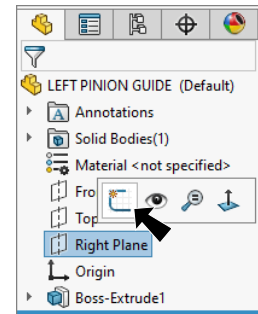

Fig. 7
Step 1. Click **Right Plane**  in the Feature Manager and click **Sketch**  on the context toolbar, **Fig. 7**.